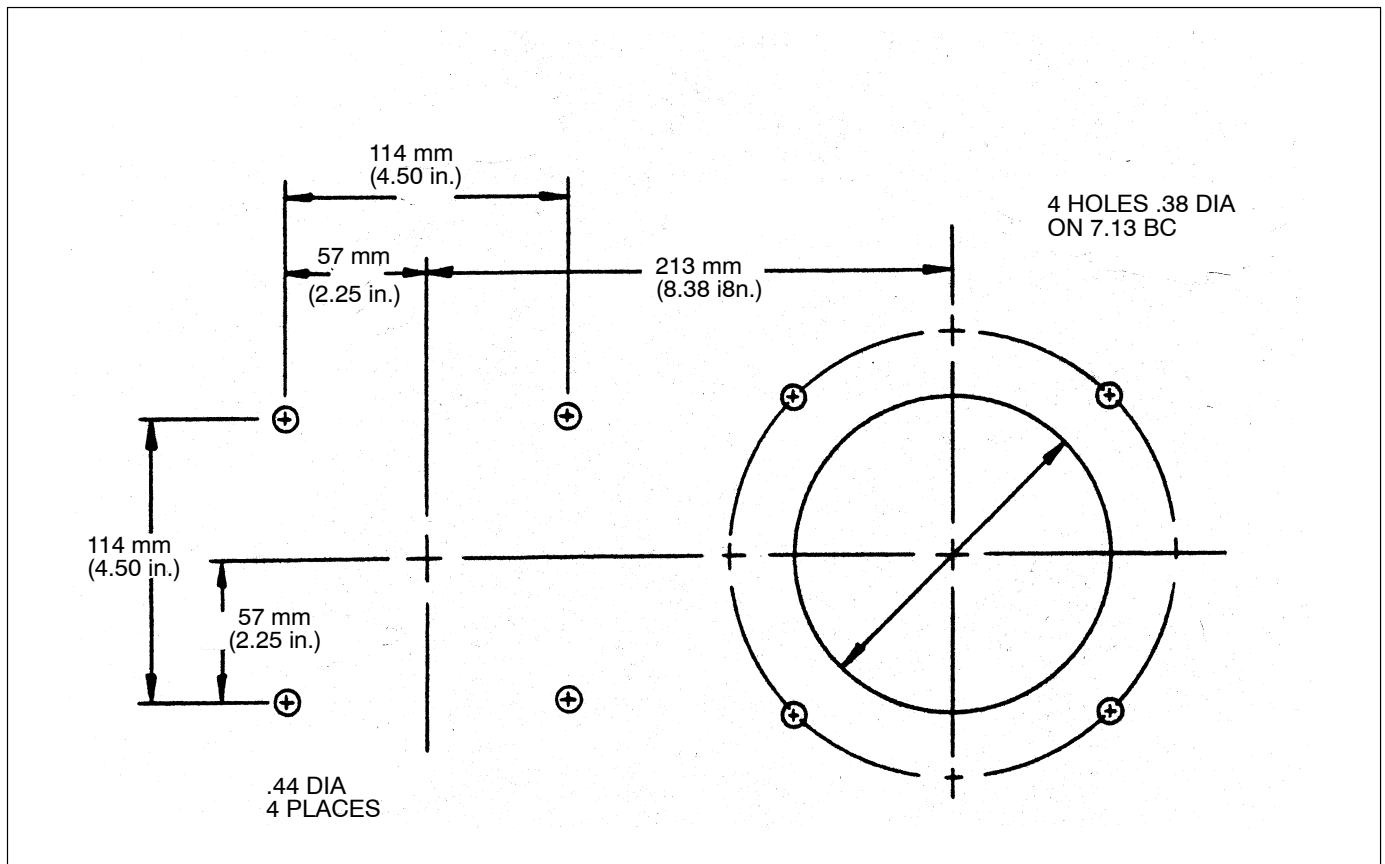

Fig. 3 Rotary Sieve Mounting Hole Pattern
1. Place the sieve on the hopper cover and determine the optimum mounting location. Trace around the sieve housing to mark the approximate location. Use the dimensions given in Figure 3 to lay out the exact locations for the eight bolt holes and hopper inlet hole.
2. Drill four 0.38-in. bolt holes, four 0.44-in. bolt holes, and cut a 5-in. (127-mm) diameter hole in the hopper cover as shown in Figure 3.